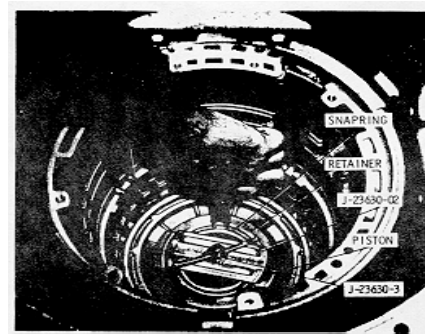
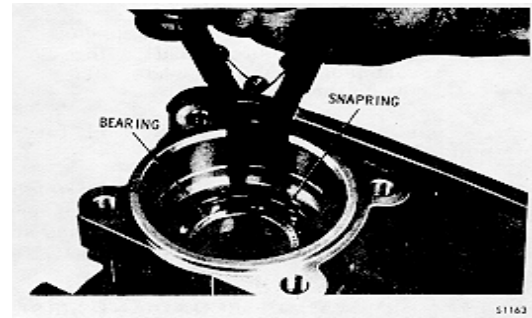

Fig. 5-19. Removing first clutch spring retainer snapping
Fig. 5-20. Removing output shaft bearing snapping
(3) On earlier models, the rear ring gear is part of the rear carrier assembly and is removed with the planetary gear unit. (Refer to paragraph 6-1 11a(12).)
(4) Install the first clutch spring compressor J-23630-01. Tighten nut J-23630-3 until the snapping is clear of the spring retainer (fig. 5-19).
(5) Remove the snapping. Remove the compressor.
(6) Remove the spring retainer and the twenty-two piston return springs.
(7) Remove the first clutch piston (fig. 5-20). Remove the two lip-type seal-rings from the piston.
(1) Remove the snapping that retains the output shaft bearing (fig. 5-20).
(2) Remove the bearing from its bore. (Refer to paragraph 3-15.)
(3) Remove the transmission housing, with its remaining attached parts, from the transmission holding fixture. Refer to paragraph 6-12 for rebuild of the transmission housing.